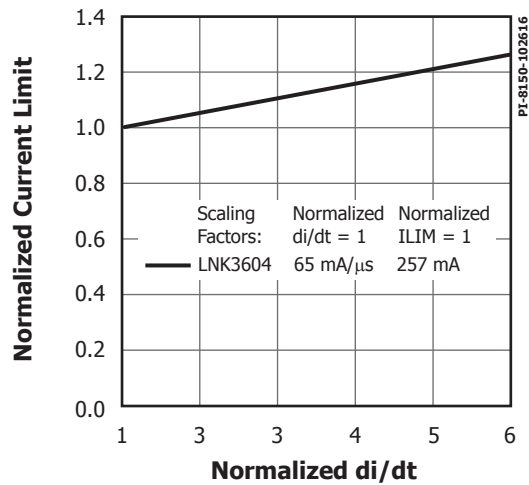

Figure 22. Default Current Limit vs. di/dt.
- D. For current limit at other di/dt values, refer to Figures 22 and 23.